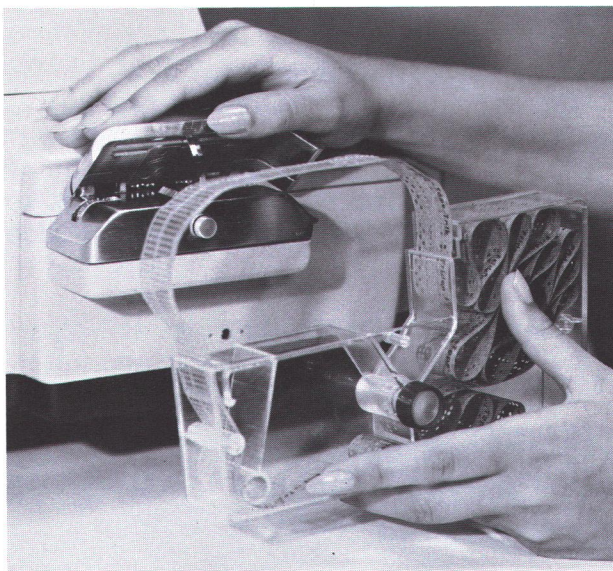

Figure 14.
1. Open the tape hold-down arm on the reader by pushing the button. (See figure 14.)
Place the cartridge on the reader, by inserting the snap lock into the frame lock. (See figure 14.)